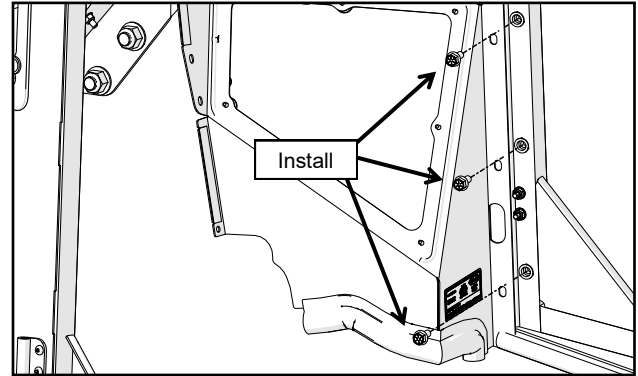

Fig. 2.20a (Install Left Filler, Inside View)
- 2.20** Install left filler onto the cab from the inside using provided hardware per Figures 2.20a and 2.20b. Flex Panel as necessary to fit in place.